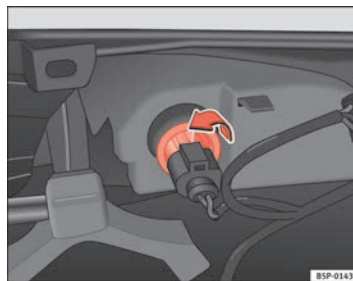

Fig. 195 Lamp on interior side of bumper
- Rotate the bulb holder to the left, and remove it in the direction of the arrow ⇒ fig. 195.